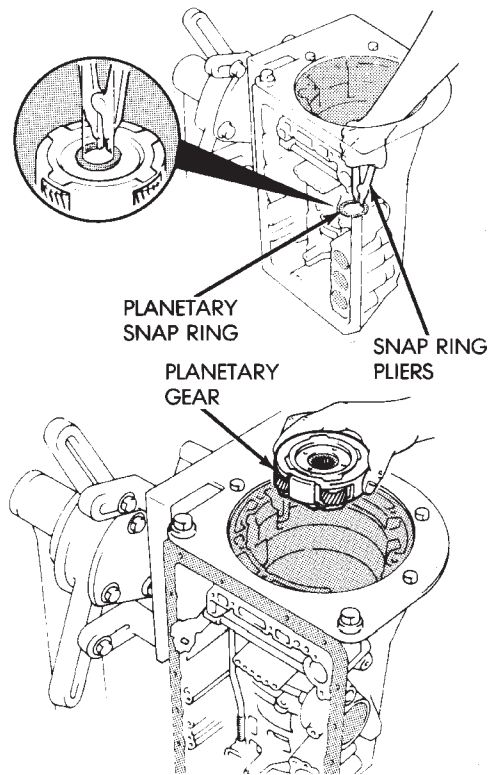

Fig. 36 Removing Planetary Snap Ring And Gear
(45) Remove planetary snap ring and remove planetary gear (Fig. 36).